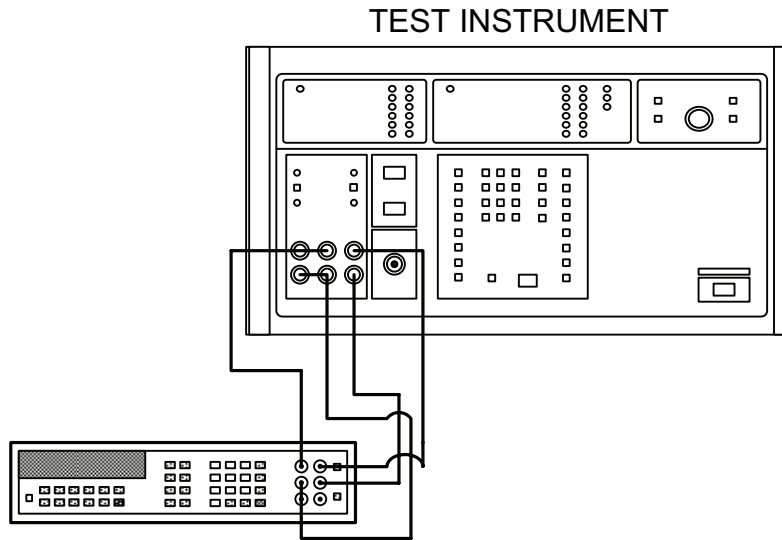

Figure 4. Resistance.
a. Connect equipment as shown in figure 4.